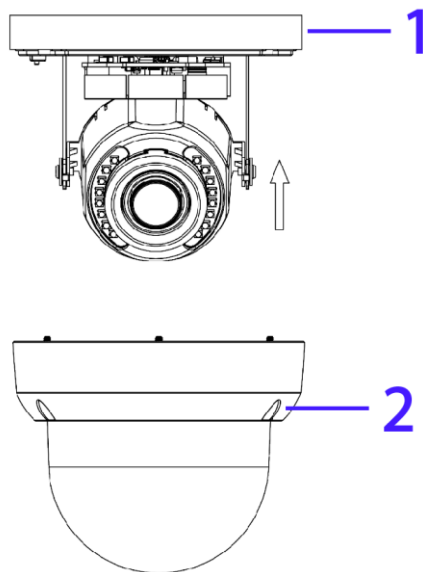

Figure 7
- A. Place the camera top cover (2) (Figure 7) onto the camera body (1) (Figure 7).
- B. Use the Torx wrench to securely attach the three Torx screws located on the camera top cover (2) (Figure 7).